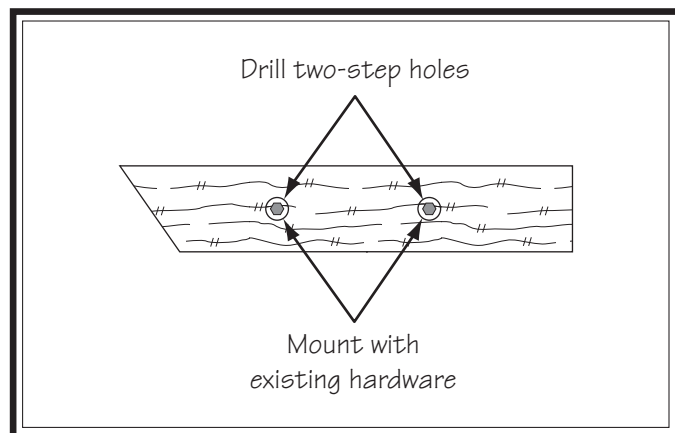

Figure 35. Example of auxiliary fence mounting holes.
9. Use miter fence lock handle holes to mark (2) mounting holes in board.
10. Drill countersunk mounting holes in auxiliary fence so miter fence hex bolts and lock handles can be used to secure auxiliary fence to miter stop (see **Figure 35**).